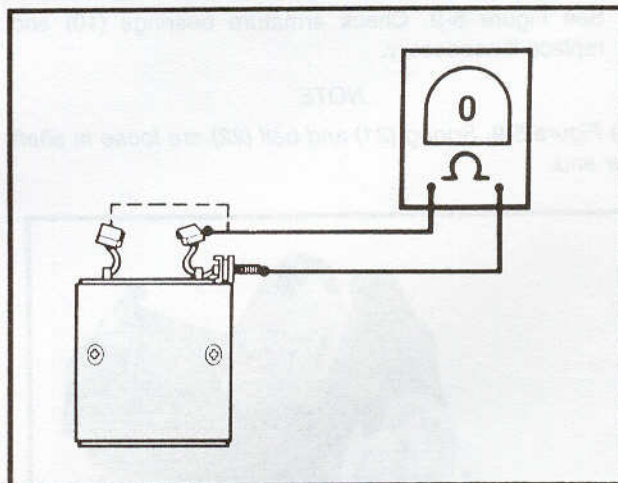

Figure 5-20. Open Field Test
14. See Figure 5-20. Check for **OPEN** **FIELD** **WINDING** with an ohmmeter or continuity tester. Touch one probe to the field wire, and the other probe to each of the brushes attached to the field coils. There should be continuity. If there is no continuity at either brush, the field winding(s) are open and the field frame should be replaced.